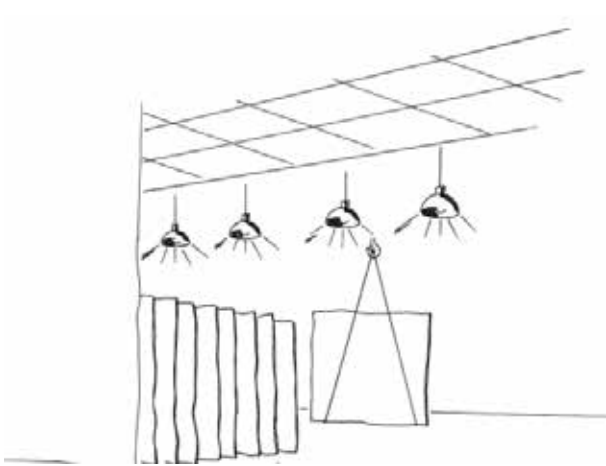

fig.54
- ▶ The level of ambient lighting must always be such as to ensure that the hoist can be operated as safely as possible (fig. 54).